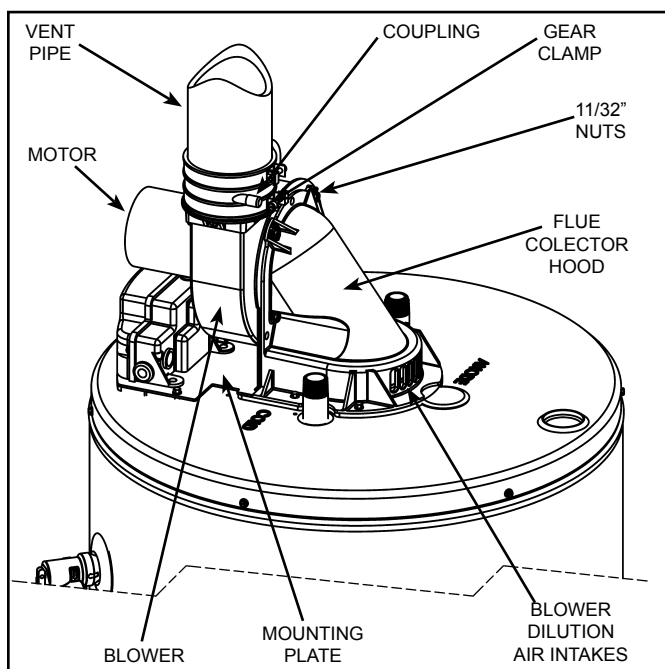

Figure 50
Inspect the top of the heater and around the ventilation openings of the blower motor and the rear blower dilution air intakes for any lint and dust that may have accumulated. Depending on the location of the heater, significant quantities of lint may accumulate. The lint may obstruct the free flow of air to the motor, and cause the motor and blower to run hotter than normal (see Figure 50).
4. Disconnect the vent piping from the top of the blower. Loosen the lower gear clamp that holds the rubber coupling to the blower (see Figure 50).